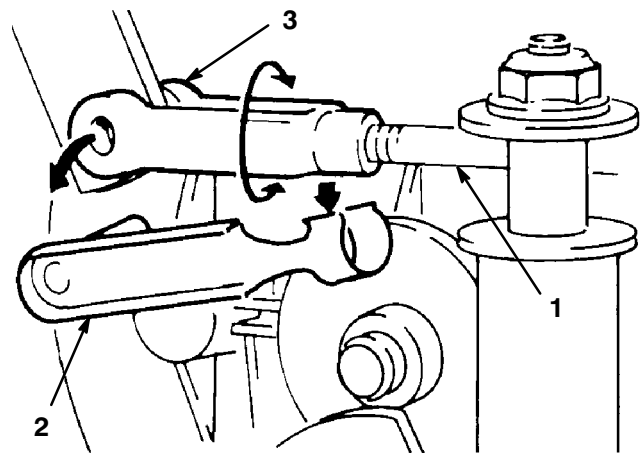

Figure 30
14. Locate the PTO rod end on the left side of the transmission (Fig. 30). Remove the clevis pin retainer and rotate the clevis to lengthen or shorten the rod until the desired clearance between the belt and pulley is attained.